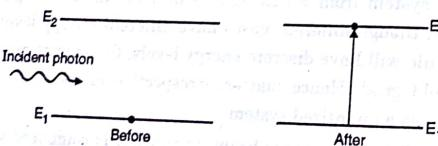

Fig. 4.2.1 : Induced absorption
- An atom in lower energy state E_1 may absorb the incident photon and may be excited to E_2 as shown in Fig. 4.2.1. This transition is known as stimulated absorption corresponding to each transition made by an atom one photon disappears from the incident beam.